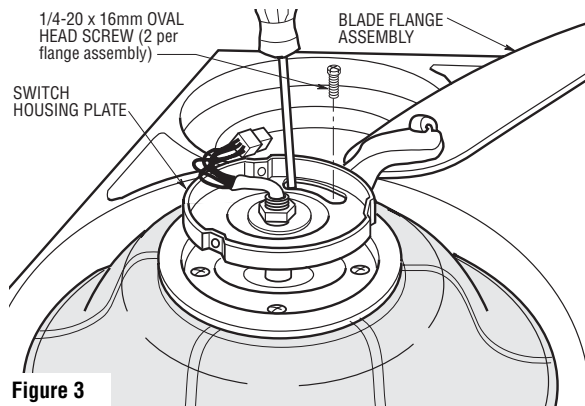

Figure 3
5. Rotate the switch housing plate to align the holes in the blade flange assembly with the holes in the motor housing (Figure 3).
- 6. Loosely attach the flange assembly using two 1/4-20 x 16mm oval head screws (supplied) (Figure 3). Install the remaining four fan blades assemblies using the same procedure.